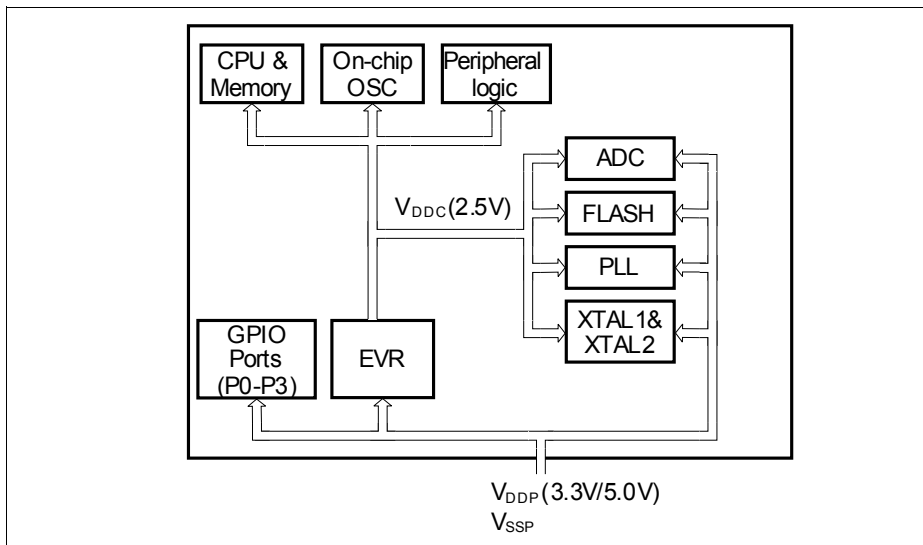

**Figure 20 XC866 Power Supply System**
**Figure 20** shows the XC866 power supply system. A power supply of 3.3 V or 5.0 V must be provided from the external power supply pin. The 2.5 V power supply for the logic is generated by the EVR. The EVR helps to reduce the power consumption of the whole chip and the complexity of the application board design.